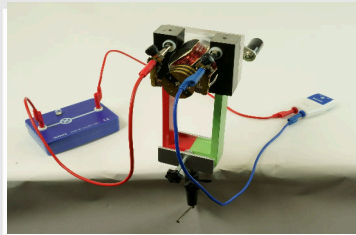

Fig. 3
- Place the grinding brushes [4] of the motor attachment against the interrupted slip ring as shown in Fig. 3.